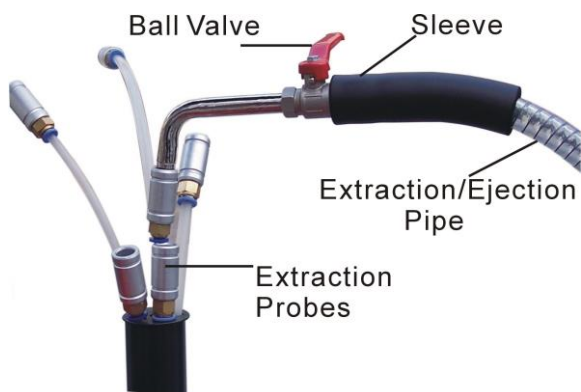

Fig. 2
(refer to Fig.2)
4. Open the ball valve (see Fig.2),the oil will be extracted into the oil tank from engine.
5. After finish extraction, turn off the extraction ball valve (Fig.2)